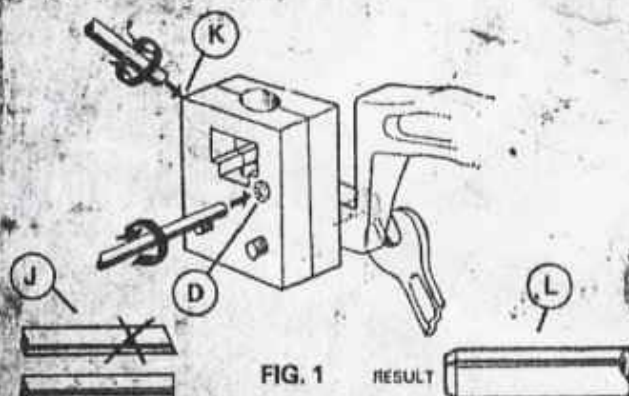

FIG. 1
- Cut off required length of pipe from 'Moprod' coil. It is important that the cut ends of the new pipe are square and true prior to flaring and it may be necessary therefore to trim the cut ends with a file in order to achieve this condition. (Fig. 1 J).
- (a) Remove any frays on the inside of the pipe by using the corner of the dies as an internal deburrer, Fig. 1 (K).
(b) Remove any frays on the outside of the pipe by using the integral deburrer located in the front and back face of the dies, Fig. 1 (D). After making sure that the bore of the pipe is clean and completing the above procedure, the pipe is ready for flaring, Fig. 1 (L).